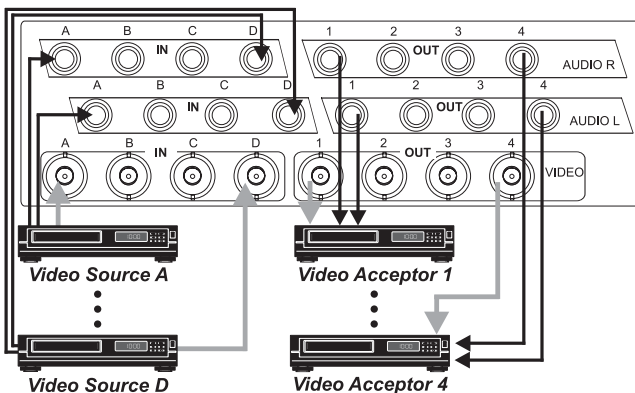

Figure 2: VS-6EII 4x4 Video Audio Matrix Switcher Connections
To connect the **VS-6EII 4x4 Video Audio Matrix Switcher**, as Figure 2 illustrates, do the following¹:
3. Connect the power cord to the mains electricity (not illustrated Figure 2).